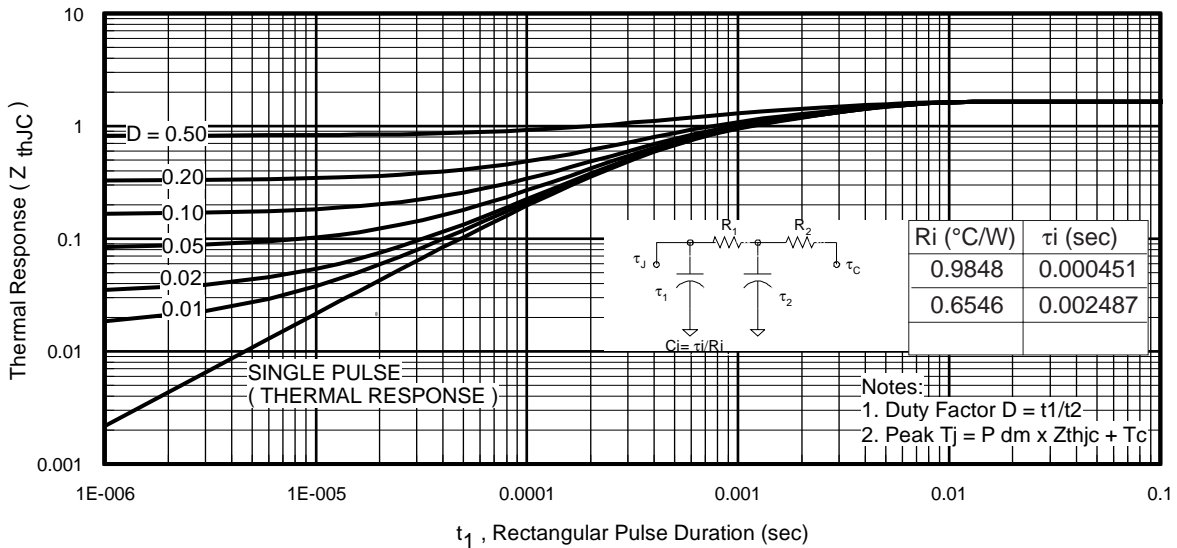
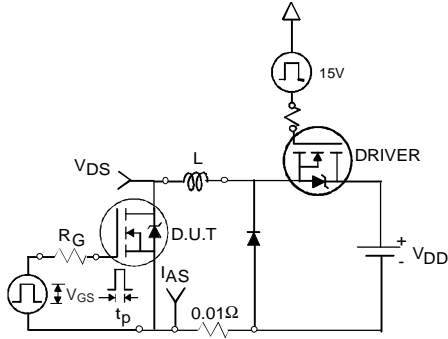

Fig 11. Maximum Effective Transient Thermal Impedance, Junction-to-Case
Fig 12a. Unclamped Inductive Test Circuit
| I_{AR} | Avalanche Current ① | See Fig.12a,12b,15,16 | A |
- ① Repetitive rating; pulse width limited by max. junction temperature. (See fig. 11).
- ② Limited by T_{Jmax} , starting $T_J = 25^\circ\text{C}$, $L = 0.11mH$, $R_G = 25\Omega$, $I_{AS} = 37A$, $V_{GS} = 10V$. Part not recommended for use above this value.
- ③ $I_{SD} \leq 37A$, $di/dt \leq 920A/\mu s$, $V_{DD} \leq V_{(BR)DSS}$, $T_J \leq 175^\circ\text{C}$.
- ④ Pulse width $\leq 1.0ms$; duty cycle $\leq 2\%$.
- ⑤ $C_{oss\ eff.}$ is a fixed capacitance that gives the same charging time as C_{oss} while V_{DS} is rising from 0 to 80% V_{DSS} .
- ⑥ Limited by T_{Jmax} , see Fig.12a, 12b, 15, 16 for typical repetitive avalanche performance.
- ⑦ This value determined from sample failure population. 100% tested to this value in production.
- ⑧ This is applied to D²Pak, when mounted on 1" square PCB (FR-4 or G-10 Material). For recommended footprint and soldering techniques refer to application note #AN-994.
3. Equation below based on circuit and waveforms shown in Figures 12a, 12b.
$Z_{thJC}(D, t_{av})$ = Transient thermal resistance, see figure 11)